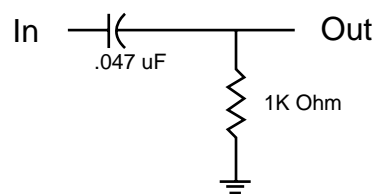

Figure 4. Differentiator Circuit
**Procedure:** Load each channel to 1 ohm. Inject a 1 kHz differentiated (or 10% duty cycle) square wave. See figure 4. Increase output level until current limit occurs. Current limit should occur at 13  $\pm$ 2 Amps (13 Vpk). Observe clean (no oscillations) current clipping.